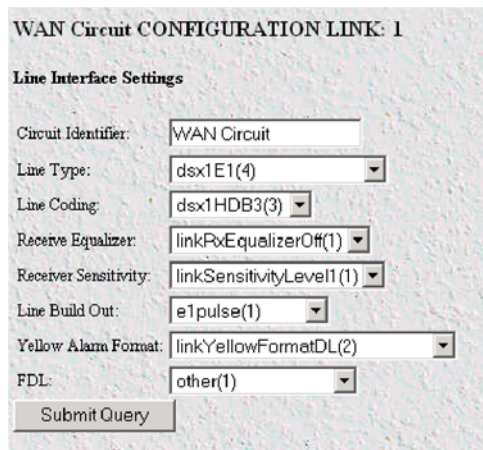

Figure 36. WAN Circuit Configuration page, Line Interface Settings
3. Click the *Configuration...* hyperlink then click the *Modify Configuration...* hyperlink to open the WAN Circuit CONFIGURATION LINK window (see figure 36) and view the *Line Interface Settings*.